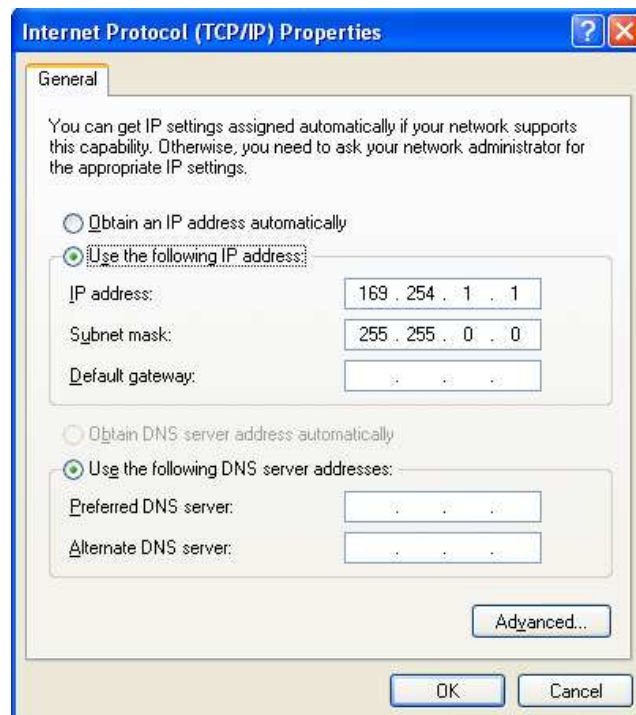

Figure 6. Network card TCP/IP address.
- Select the **Internet Protocol (TCP/IP)** check box and then select **Properties**. See Figure 6. Network card TCP/IP address.. Select the **Use the following IP address** and enter an IP address of **169. 254. x. y**, where **x** and **y** can be any number. Press the TAB key after entering the IP address and the subnet mask will automatically be entered. The subnet mask is **255. 0. 0**. Click **OK** to save changes. Note that if Windows reports a conflict with the above IP address, simply repeat the above steps and change the last digit of the IP address to a different value.